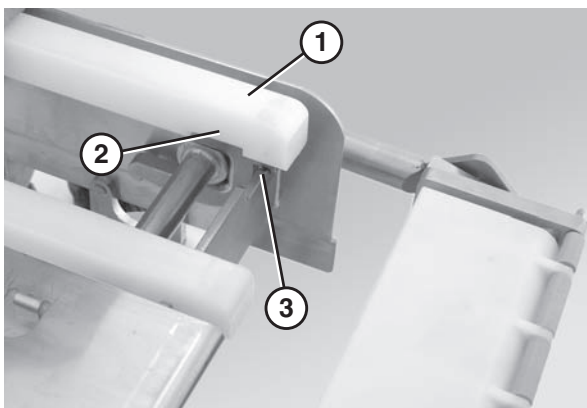

Figure 8
1. Position the wear strips (**Figure 8, item 1**) on the frame.
2. Make sure the slots in the wear strips (**Figure 8, item 2**) line up properly with the frame slots (**Figure 8, item 3**).